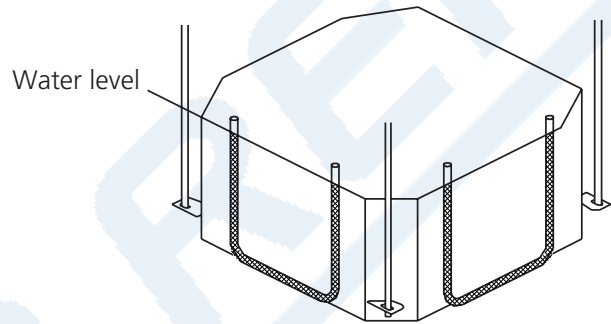

**Fig. 3.5**
5. Mount the indoor unit. You will need two people to lift and secure it. Insert suspension bolts into the unit's hanging holes. Fasten them using the included washers and nuts (See Fig. 3.5).